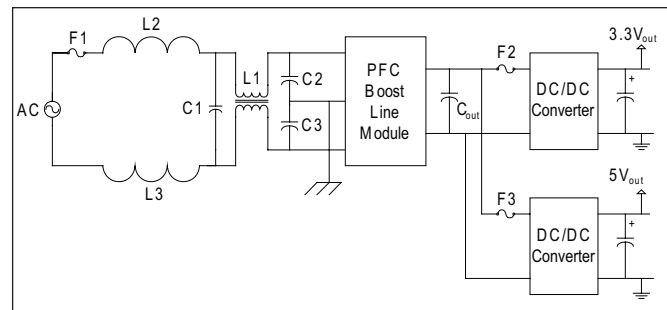

Figure 3. PFC Boost - Typical application circuit, 3.3 & 5 V, 60 W combined output power.
The boost-circuit based PFC topology is the most popular. It is an economical solution for complying with regulations (Figure 3). The inductance value is selected based on the desired current ripple in the boost inductor. The inductance value is expressed as follows:
Product safety standards written by Underwriters Laboratories (UL) and the International Electrotechnical Commission (IEC) require fuses for primary AC power protection and secondary protection against any catastrophic failure within the input filter capacitors, PFC boost module, output electrolytic capacitors (C_{out}) or the DC-DC converters. The PFC boost module usually does not contain overcurrent protection; if a short-circuit is applied across its output terminals, there is no internal circuit opening device to safely interrupt the power. Without fuse protection in the AC input line (see fuse F1 in Figure 3), the boost converter is not protected.
Fusing the DC-DC converter input lines is essential for protection against a catastrophic DC-DC converter failure (see fuses F2 and F3 in Figure 3).
Common Eaton Bussmann Series fuses applied to the overcurrent protection points in the circuit of Figure 3 are: